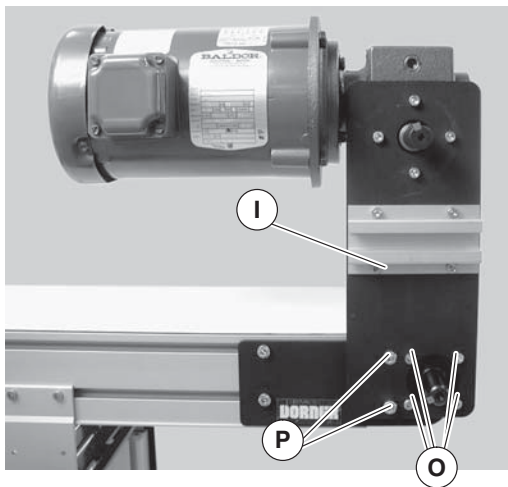

Figure 6
- Attach mount assembly (Figure 6, item I) with two (2) M8 screws (P) and four (4) M6 screws (O). Tighten M6 screws (O) to 146 in-lbs (16.5 N-m) and M8 screws (P) to 288 in-lbs (32.5 N-m).